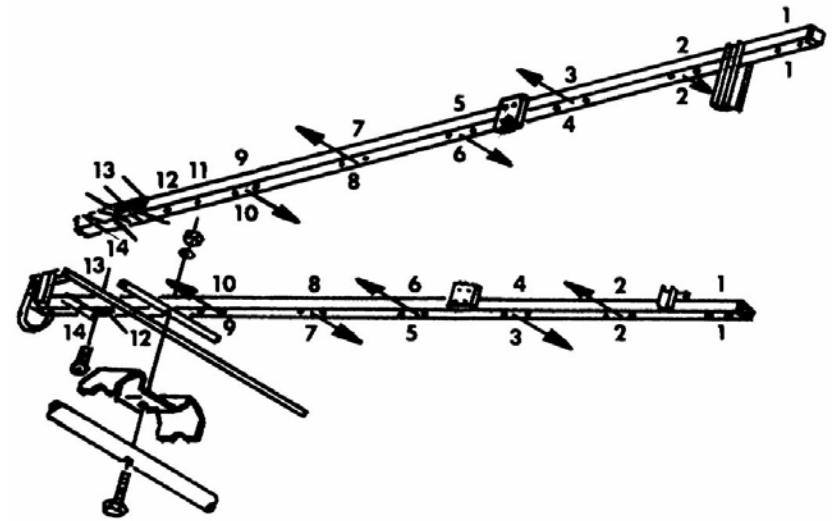
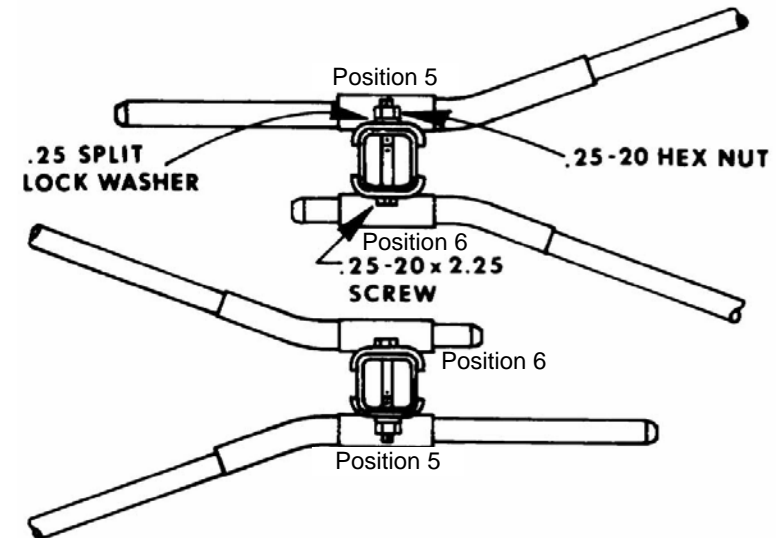

FIGURE 1
FIGURE 2
1. Assemble the two halves of the square reflector to the rear of the crossarm. (Marked "1") (See Figure 1)
2. Assemble the longest "X" element thirteen inches ahead of the square reflector. Arrows on the crossarm indicate the polarity of the long portion of the elements. (Marked "2") (See Figure 1 & Figure 2)
3. Assemble the remaining "X" elements using progressively shorter elements towards the front of the antenna. Be sure to observe element polarity as indicated by the arrows. Element halves with stub extensions should be mounted on outside of crossarms. (Marked "3" through "9") (See Figure 1)
4. Use screws to assemble the two 14" UHF reflectors six inches in front of the forward "X" element. (Marked "11") (See Figure 1)
5. Assemble the two straight 36-1/2" VHF elements five inches ahead of the UHF reflectors. Arrows indicate polarity of long portion of the element. (Marked "12") (See figure 1)